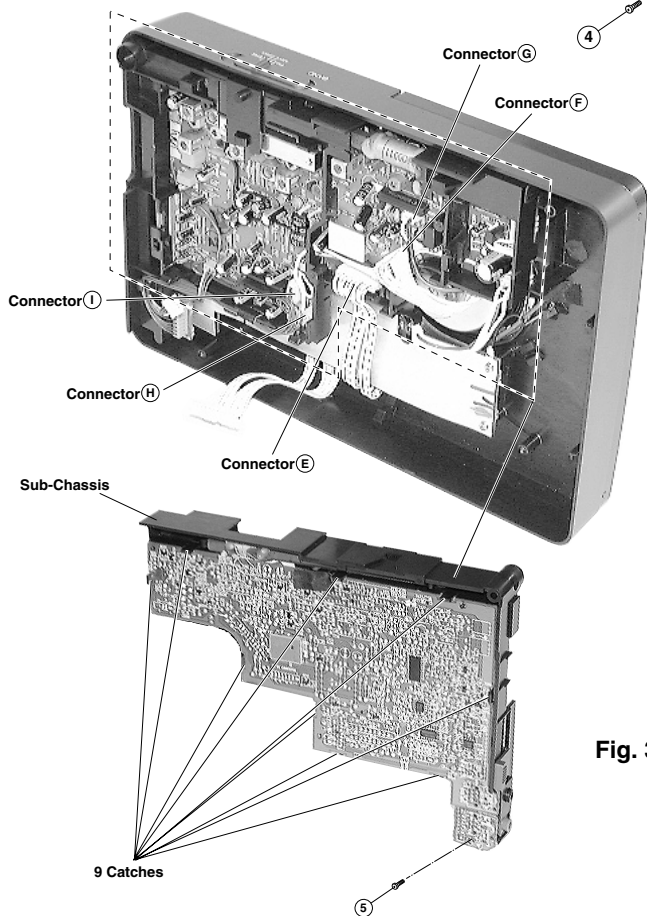

Fig. 3
### **2. Removal of TUNER P.W.B. Board (Fig. 3)**
5. SW1, SW2 dummy antenna is shown in Fig. 3.